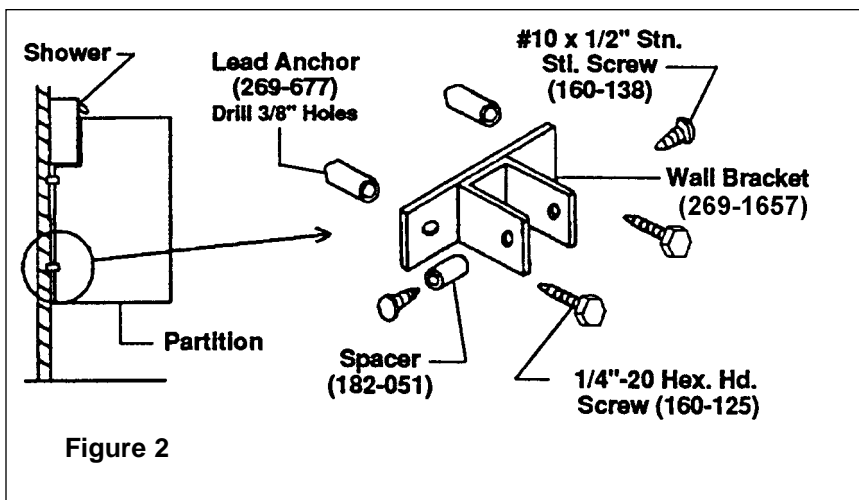

Figure 2
5. After the holes are drilled into the partition, secure the wall brackets to the partition using the #10 x 1/2" Allen head screws and spacers provided (see Figure 2).
6. Secure the wall brackets to the wall using the hardware provided as shown in Figure 2.